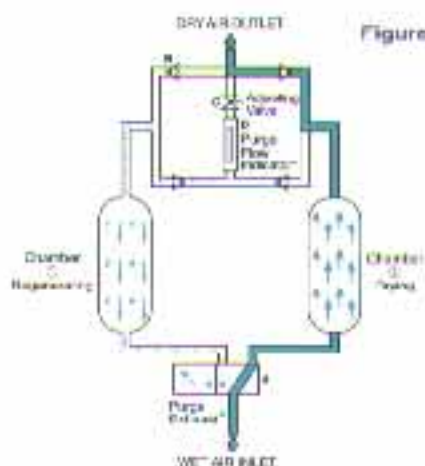

Figure 2
When the regeneration cycle is complete, inlet gas is then switched over to chamber ② (Figure 2) for drying.